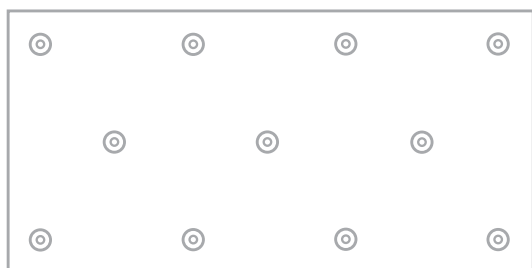
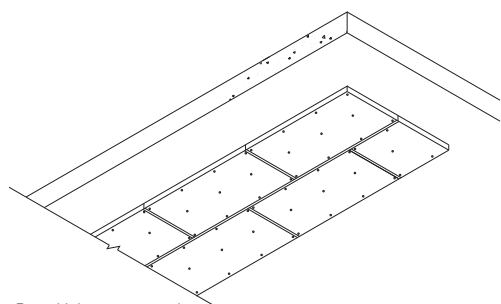
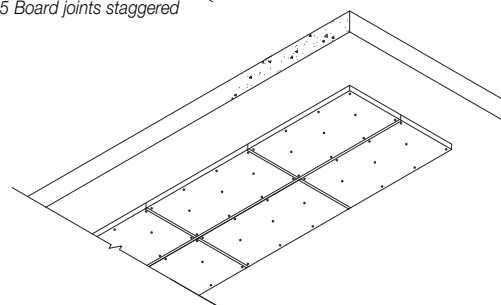

Figure 3 Fastener pattern (11 No. per board)
Figure 5 Board joints staggered
Figure 6 Board joints squared
2. Board joints can be either staggered (see Figure 5) or squared (see Figure 6) and taped with 96 mm wide silver *Kingspan* Insulation Tape. Fasteners along each length - no less than 50 mm - no more than 150 mm from edge of board, 3 No. fasteners along the middle (offset from edge positions as per diagram Figure 3).